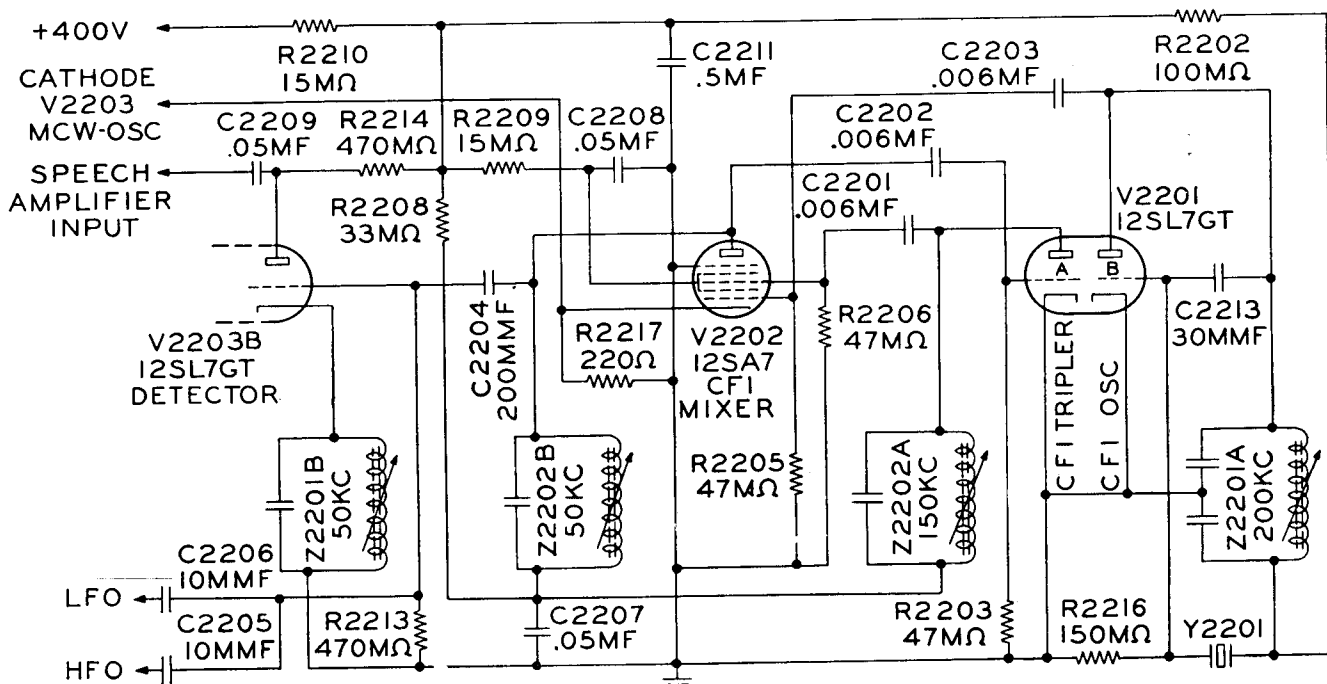

Figure 4-9. CFI Circuit
(1) GENERAL.—The calibration oscillator employs a circuit known as a regenerative frequency divider. Refer to figure 4-9. The circuit produces a 50 kc fundamental frequency and harmonic output voltages while using a 200 kc crystal as a controlling standard. The 200 kc quartz crystal unit is mounted in a sealed holder which plugs into a two terminal socket on the top of the chassis. Both triode sections of a 12SL7GT tube, V2201, a 12SA7 pentagrid converter tube, V2202, and one section of an additional 12SL7GT tube, V2203, are used in the calibration oscillator circuit. The vacuum tubes plug into octal sockets on top of the chassis in the order mentioned. The chassis is stamped with the crystal and vacuum tube type designations. The inductor tuning screws that protrude through the sides of the shield cans containing tank circuits Z2201A, Z2201B, Z2202A, and Z2202B should not be adjusted for any reason unless the alignment procedure is thoroughly understood. The CFI Unit is placed in operation by applying plate voltage to the CFI tubes. The voltage is obtained from the low voltage section of the dynamotor and is applied when power level switch S106 is operated to the CALIBRATE position. Operating power level switch S106 to either TUNE or OPERATE position removes high voltage from the CFI tubes thus disabling the oscillator circuit.